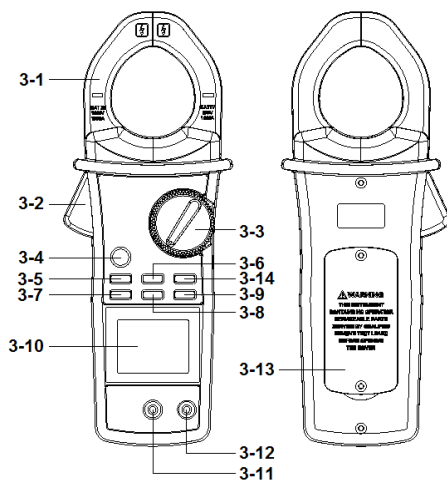

Fig. 1
- a. When not use the meter, should rotate the " Function rotary switch " (3-3, Fig. 1) to the " OFF " position.
Press the " backlight button " (3-9, Fig. 1) while turning the " Function switch " from the " OFF " position to the desiring function position.
- 1) Connect BLACK test lead into " COM " terminal (3-11, Fig. 1)
- 2) Connect RED test lead into " V " terminal (3-12, Fig. 1).
- 3) Select the " Function rotary switch " (3-3, Fig. 1) to the " V " position, Display will show " SMART " marker. meter is under " Smart " mode for voltage AC/DC auto scanning.
- 5) Push the " SELECT button " (3-5, Fig. 1) to select the " ACV " or " DCV " measurement.
- 7) Under the operation of " auto range " mode, push the " Range button " (3-8 Fig. 1) once will execute the " Manual Range " mode and hold the range. Under the manual range operation, push the " SELECT button " will return to SMART mode.
During the measurement, if push the " Hz button " (3-7 Fig. 1) once, until the LCD show the " kHz " marker and the display will show the frequency value of the measurement signal.
- 1) Connect BLACK test lead into " COM " terminal (3-11, Fig. 1).
- 2) Connect RED test lead into " Ω " terminal (3-12, Fig. 1).
- 3) Select the " Function rotary switch " (3-3, Fig. 1) to the " Ω " position.
- 5) Under the operation of " SMART " mode, push the " SELECT button " (3-5 Fig. 1) will execute the "AUTO Range" mode and hold the range, the LCD will show the " AUTO "marker. Under the auto range operation, push the " SELECT button " will return to SMART mord.
- 1) Select the " Function rotary switch " (3-3, Fig. 1) to the " 600A " or "1000A " position, Display will show " SMART "marker. meter is under" Smart " mode for Current ACA , DCA auto scanning.
- 2) Press the " Tigger " (3-2, Fig. 1) to open the " Current Sensor Jaws " (3-1, Fig. 1) and clamp on the measured conductor, the display will show the measurement ACA or DCA current value automatically.
- 4) Push the " SELECT button " (3-5, Fig. 1) to select the " ACA " or " DCA " measurement.
- 5) Under the operation of "SMART " mode, push the " Select button " (3-5 Fig. 1) once will execute the " ACA or DCA " mode and hold the range. Under the DCA, ACA operation, push the " SELECT button " will return to SMART mode.
- 6) Push the " DCA Zero button " (3-6, Fig. 1) until the display show " 0.0 " the LCD will indicate "  "symbol.
During the measurement, if push the " Hz button " (3-7, Fig. 1) once, until the LCD show the " kHz " marker and the display will show the frequency value of the measuement signal.
- 1) Connect BLACK test lead into " COM " terminal (3-11, Fig 1.)
- 2) Connect RED test lead into " Ω " terminal (3-12, Fig 1)
- 2) Connect RED test lead into " Ω " terminal (3-12, Fig 1.)
- 3) Select the " Function rotary switch " (3-3, Fig. 1) to the " \rightarrow " position.
- 1) Select the " Function rotary switch " (3-3, Fig. 1) to the " || " position.
- * *If the measured capacity existing the polarity, then should connect the " + " polarity of the measured capacitor to the " V " terminal (3-12, Fig. 1), connect the " - " polarity of the measured capacitor to the " COM " terminal (3-11, Fig. 1),*